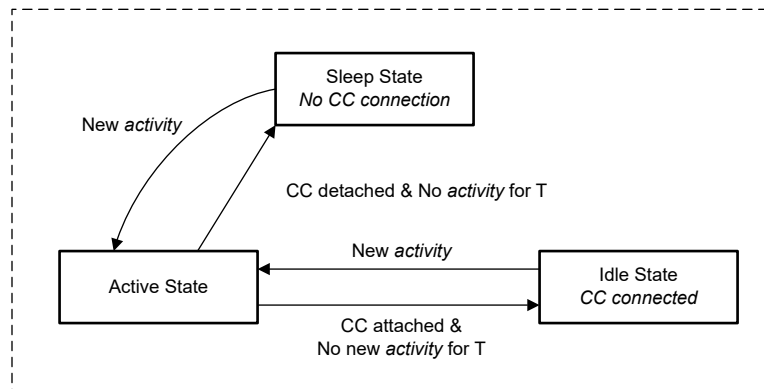

Figure 8-37. Flow Diagram For Power States
The TPS26742E-Q1 operates in one of four different power states: Active, Idle, Sleep or Shutdown. The functionality available in each state is summarized in Table 8-9. The device automatically transitions between the power states based on the circuits that are active and required, see Figure 8-37. In the Sleep State the TPS26742E-Q1 detects a Type-C connection or other activity that requires moving to the Active state (such as liquid detection actions). Transitioning between the Active mode to the Idle mode requires a period of time (T) without any of the following activity: